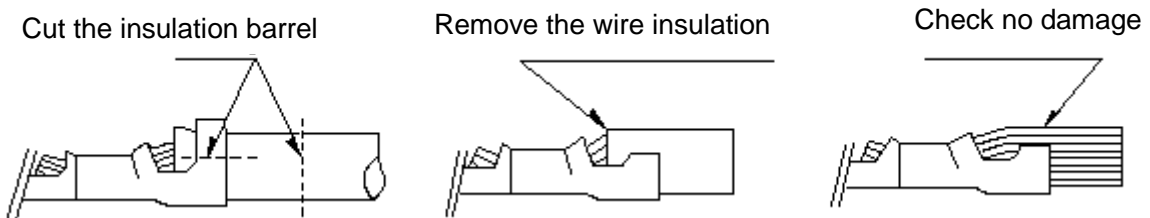

Fig.8
③ Checks of crimping condition at wire insulation barrel (Fig 8)